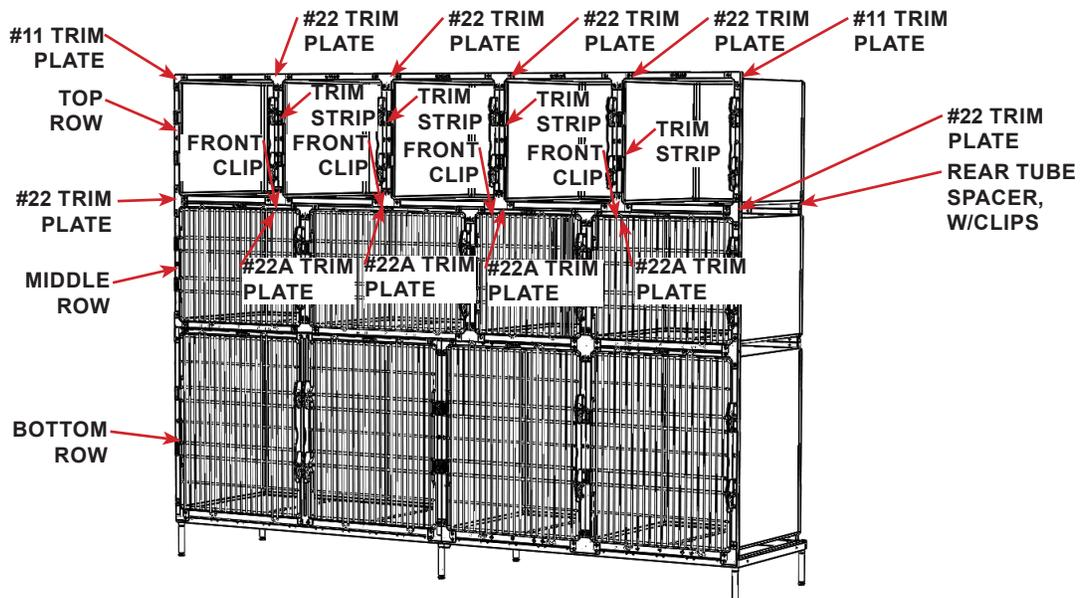

FIGURE 2.49 - Phase III Assembly Progress Illustration, Configurations Vary
STEP 7: Remove the screws and install, but do NOT fully tighten screws, the trim strips connecting the cage row together, as each cage is added to the row. See FIGURE 2.49
STEP 8: Remove the screws and install, but do NOT fully tighten screws, the trim plates connecting the top row to the row below. See FIGURE 2.49